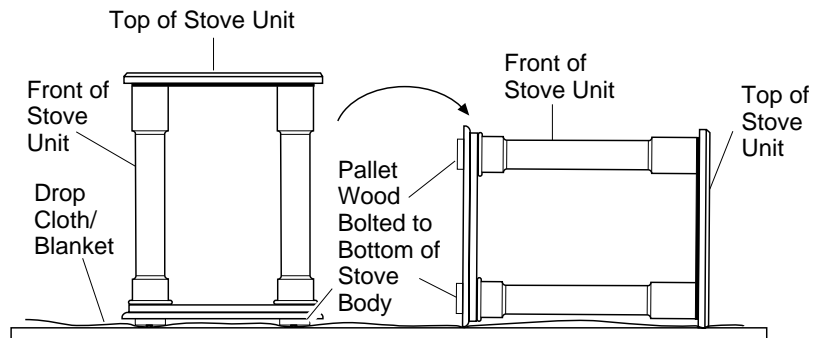

Figure 7 - Laying Stove On Side
6. Carefully lay stove body on back to attach bottom components to stove body (see Figure 7). Rest stove on drop cloth or blanket to avoid scratching stove edges.